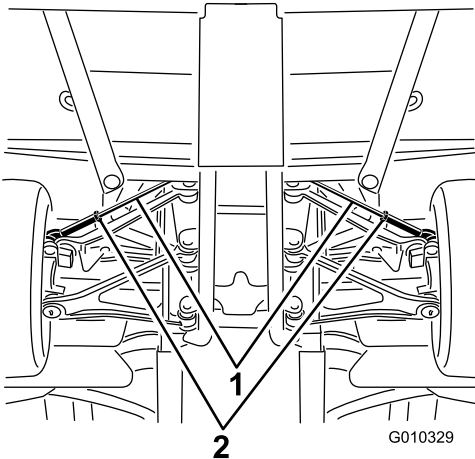

Figure 51
A. Loosen the jam nut at the center of the tie rod (Figure 51).